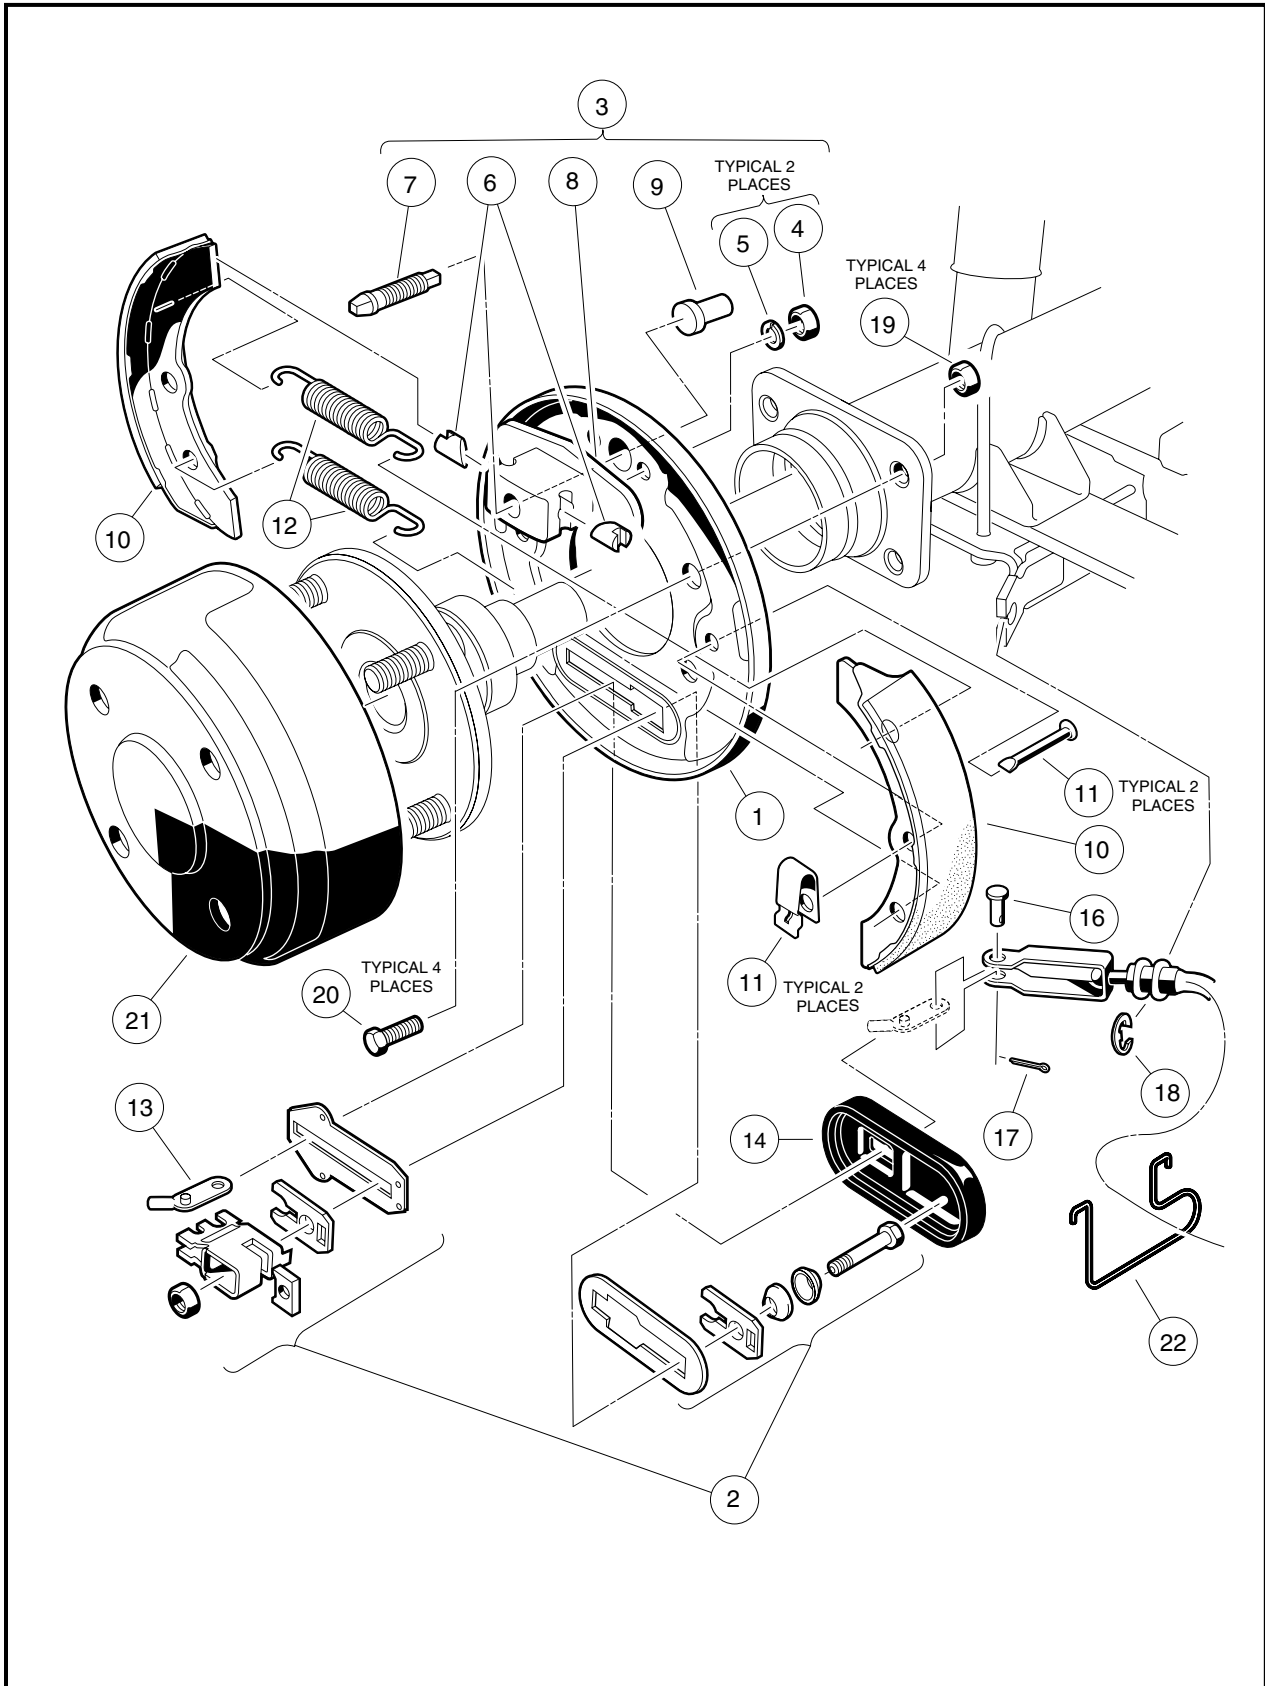

Figure 6-26 Rear Manually Adjusted Brake Assembly
5. Remove cotter pin (17) and clevis pin (16) from brake cable (**Figure 6-26, Page 6-14 or Figure 6-1, Page 6-2**).
6. Remove 4 bolts (20) and cone locknuts (19) that mount the brake assembly to the transaxle (**Figure 6-26, Page 6-14 or Figure 6-1, Page 6-2**).
2. Be sure bolts (20) and **new** cone locknuts (19) are used to mount the brake assembly (**Figure 6-26, Page 6-14 or Figure 6-1, Page 6-2**).